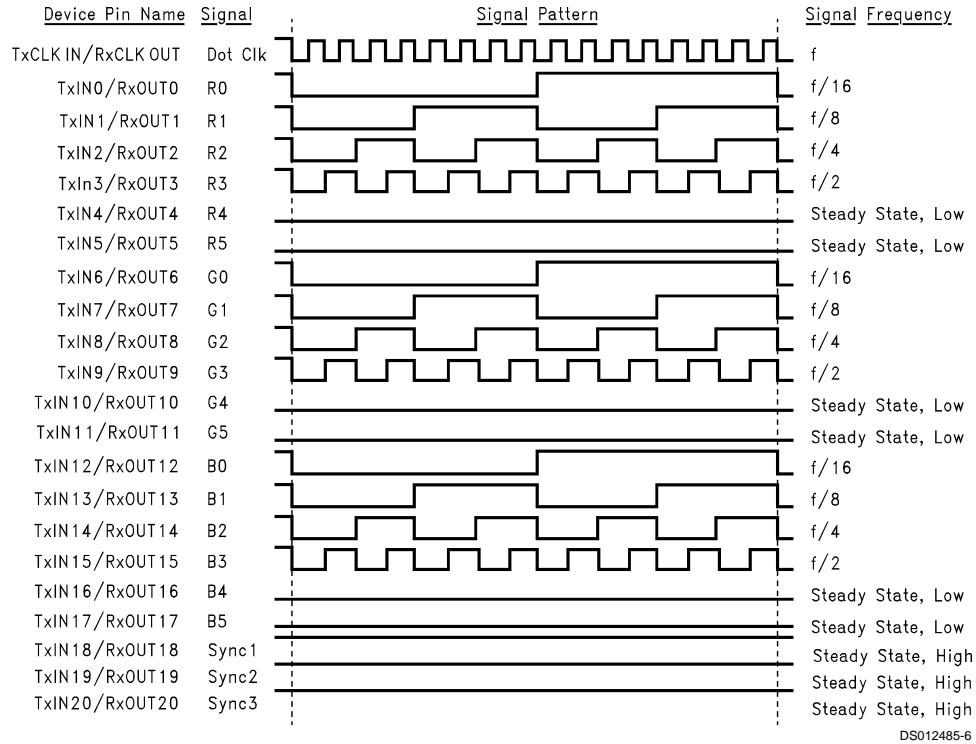

FIGURE 2. "16 Grayscale" Test Pattern (Notes 7, 8, 9, 10)
**Note 9:** Figure 1 and Figure 2 show a falling edge data strobe (TxCLK IN/RxCLK OUT).